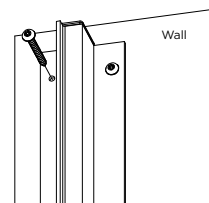

Fig. 3b
3. Using the wall post as a template, mark the mounting holes on wall. Use #19 drill bit (4.2mm) for 2" (50mm) deep pilot holes into adequate wall backing. If backing is not present, use anchors per local building code. Secure wall post to wall using #1002495. **Fig 3b.**